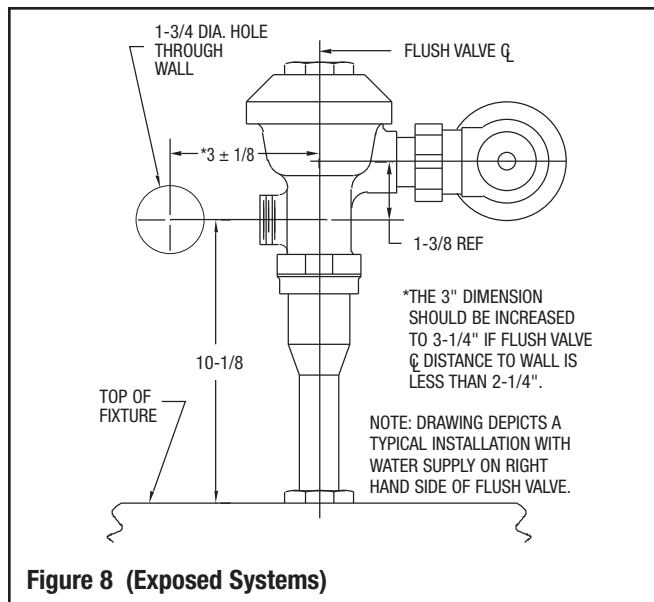

Figure 8 (Exposed Systems)
1. Drill 1-3/4" diameter hole per Figure 8.